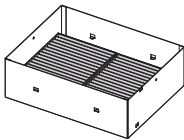

Fig. 3
- 3) **Secure the long life filter mount clasp. (Fig. 3)**
- When the two air filter units are attached (Fig. 3), proceed to “Attaching the long life filter cover” (➡ page 10) next.